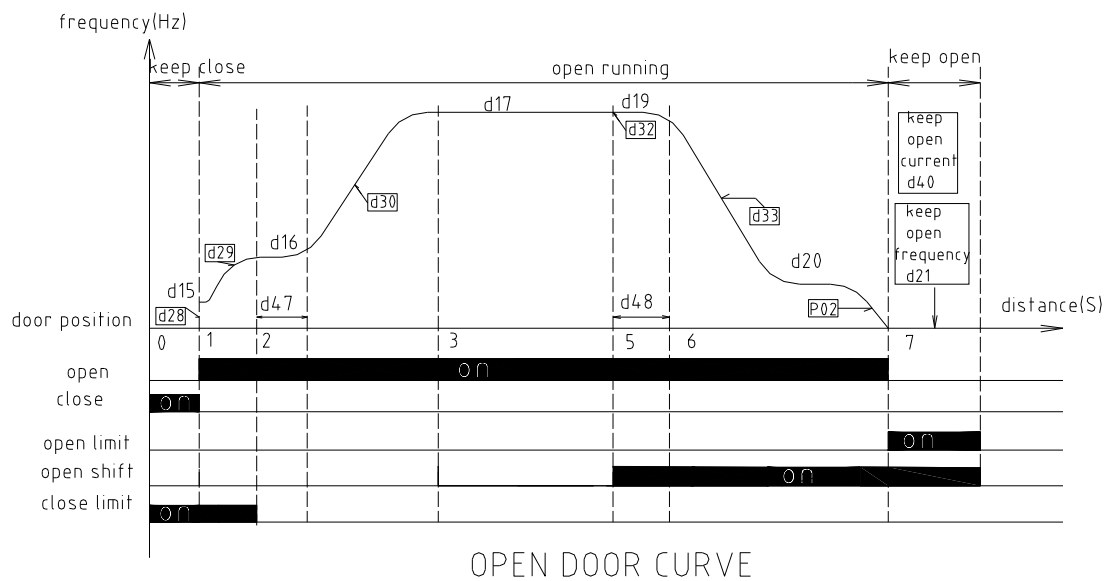
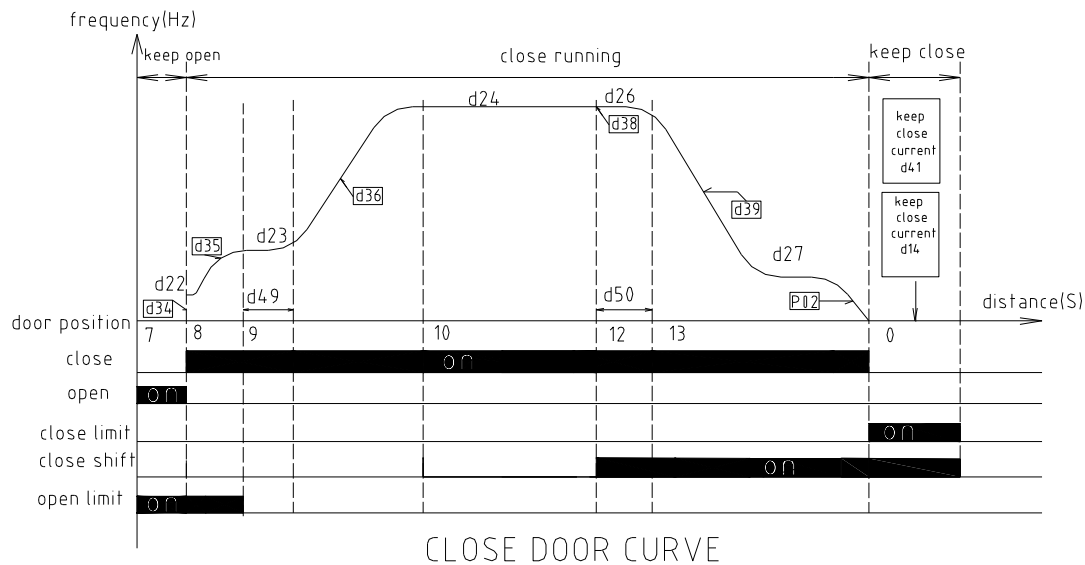

Figure 2
Figure 3
Before the door controller is sent out from factory, the Autotune of door width pulses and function parameters are completed. If user requires getting preferable running curve, he can modify the corresponding parameters refer to fig.2 & fig. 3.
2. Refer to fig.2 & fig.3 and corresponding parameters (page:4,5), to get better capability through adjusting door running curve.